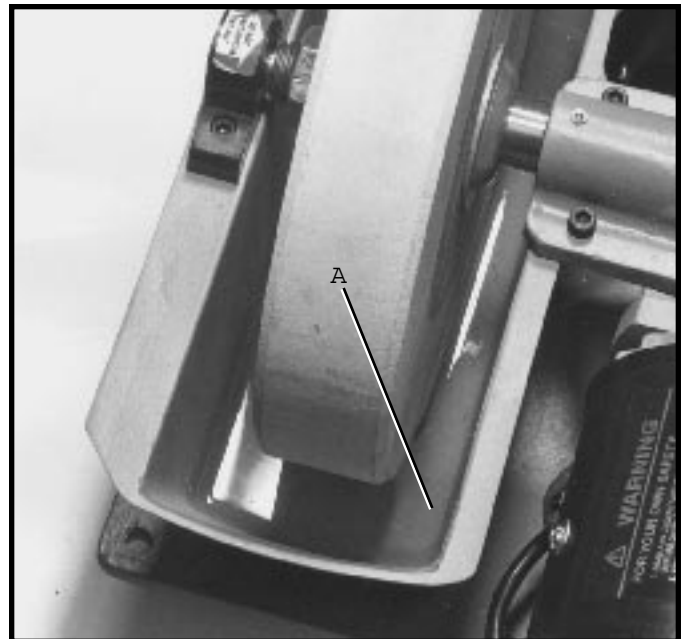

Fig. 15
When using the 10 grinding wheel, there should always be enough water in the base (A) Fig. 15, of the grinder in order that one inch of the lower portion of the grinding wheel will be submerged in water. As water is absorbed into the grinding wheel, additional water must be added into the base.